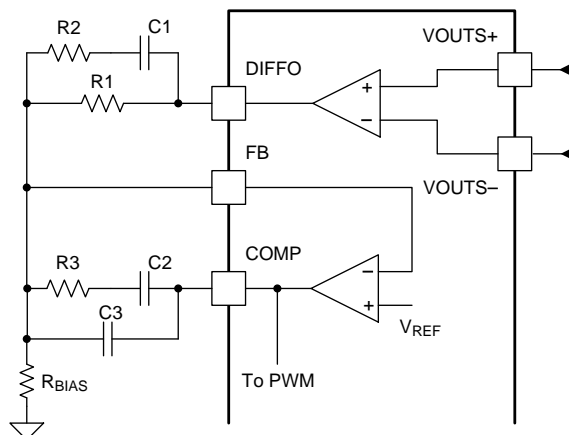

Figure 33. Output Voltage Setting
The TPS544x25 devices implement a differential remote sense amplifier to provide excellent load regulation by cancelling IR-drop in high current applications. The VOUTS+ and VOUTS– pins should be kelvin-connected to the output capacitor bank directly at the load, and routed back to the device as a tightly coupled differential pair. Ensure that these traces are isolated from fast switching signals and high current paths on the final PCB layout, as these can add differential-mode noise. Optionally, use a small coupling capacitor (1-nF typical) between the VOUTS+ and VOUTS– pins to improve noise immunity. The output of the differential remote sense amplifier (DIFFO) is used for output voltage setting and error amplifier frequency compensation local to the device as shown in Figure 33.
A voltage divider from the DIFFO pin to the FB pin is typically required to set the nominal output voltage like the one formed by R1 and R_{BIAS} resistors shown in Figure 33. To allow PMBus devices to map between the commanded voltage and the voltage at the control circuit input (V_{OUT} divided down to match a reference voltage), the device uses the VOUT SCALE LOOP command.
- $V_{OUT_SCALE_LOOP} = R_{BIAS} / (R_{BIAS} + R1)$ (as shown in Figure 33) (1)